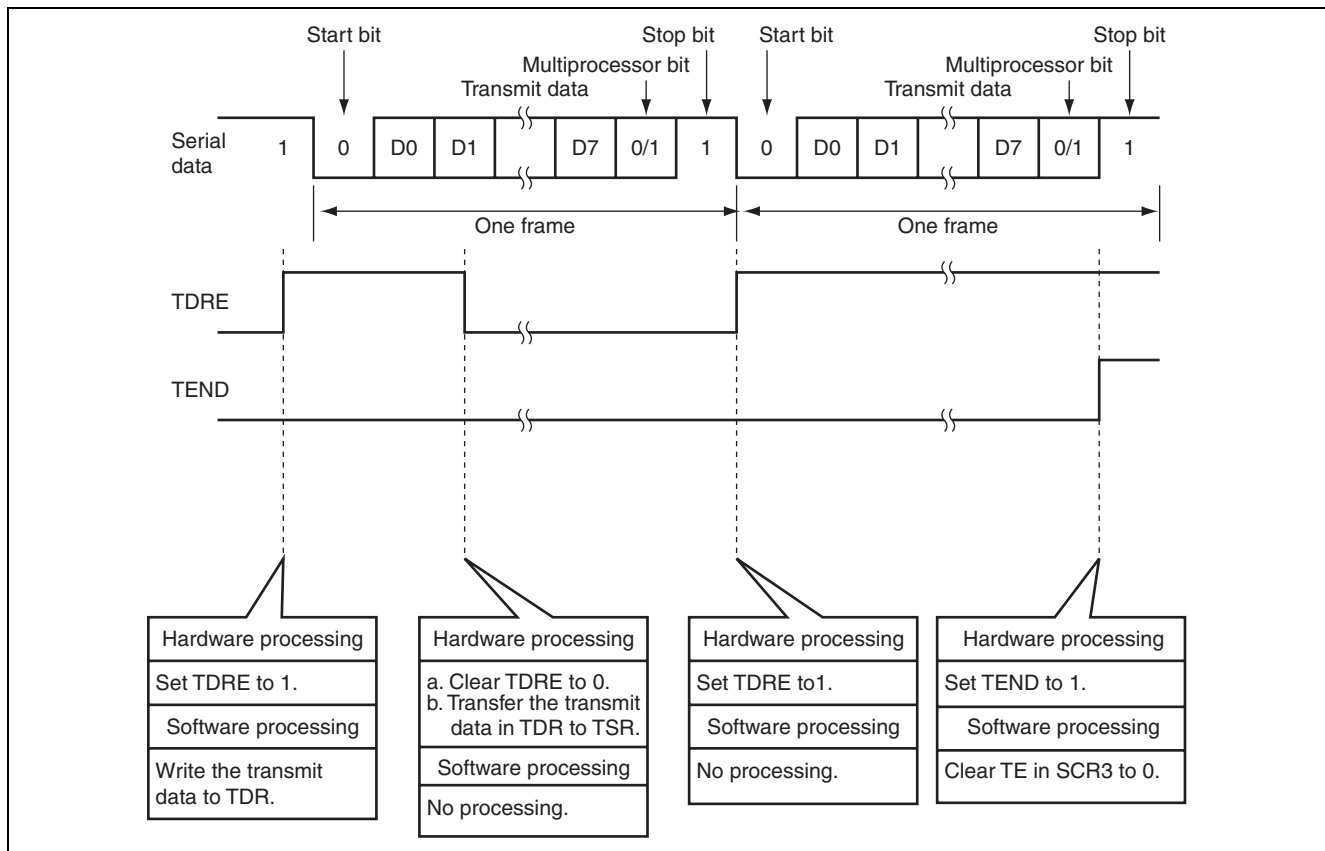

Figure 3.1 Operation Principle of Transmission by Multiprocessor Communication Function
- Figure 3.1 illustrates the operation of this sample task. Data transmission is performed by the multiprocessor communication function through hardware and software processing as shown in figure 3.1.